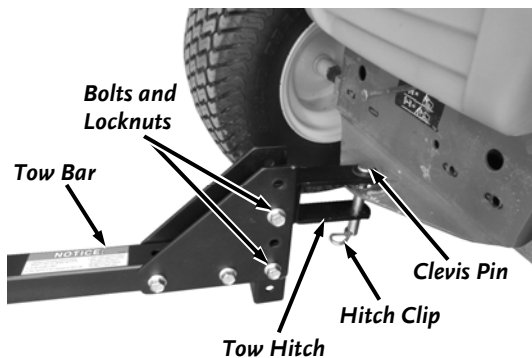

Figure 20
1. Position the Tow Hitch onto the Tow Vehicle Hitch and secure with the clevis Pin and Hitch Clip (**Figure 20**).
1. Remove the two Bolts and Locknuts that secure the Hitch to the Tow Bar and position the Hitch at the desired setting to level the machine (**Figure 20**).